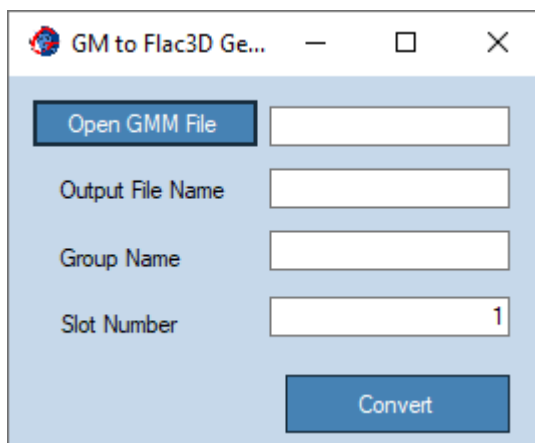

Figure 13: *Geo Meshing v3.1* to Flac3D® geometry dialog window.
- **GM to Flac3D® Geometry:** Opens a dialog window (shown in Figure 13) for converting *Geo Meshing v3.1* meshes to Flac3d® geometry. The resulting file can be imported in Flac3D® using *Open Item/Geometric Data: Import* option.